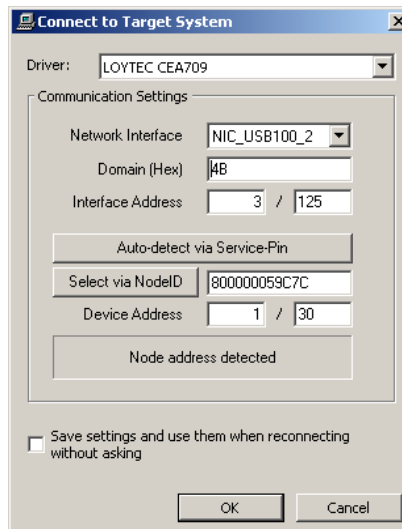

Figure 266: Connect via CEA-709
- **CEA-709:** Select the network interface to use and fill out all other fields, see Figure 266. Alternatively, select the network interface and press Auto-detect via Service-Pin. Then press the service pin on the LINX-110 device. Note that this connection method requires an installed LOYTEC network interface.